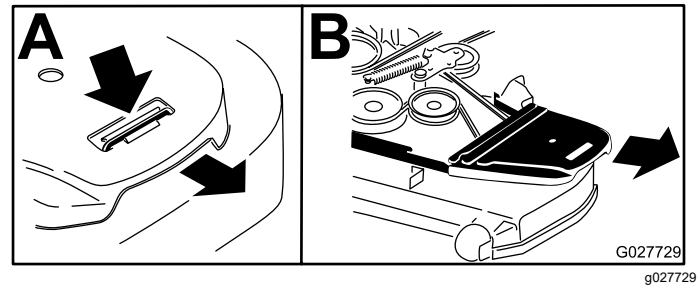

Figure 90
4. Remove the belt covers (Figure 90).